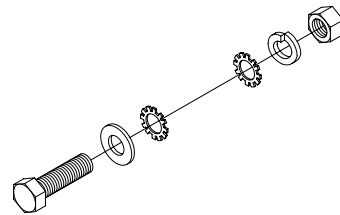

Figure 8.2a
- Bolted connections (without cross braces) should be assembled per Figure 8.2a.